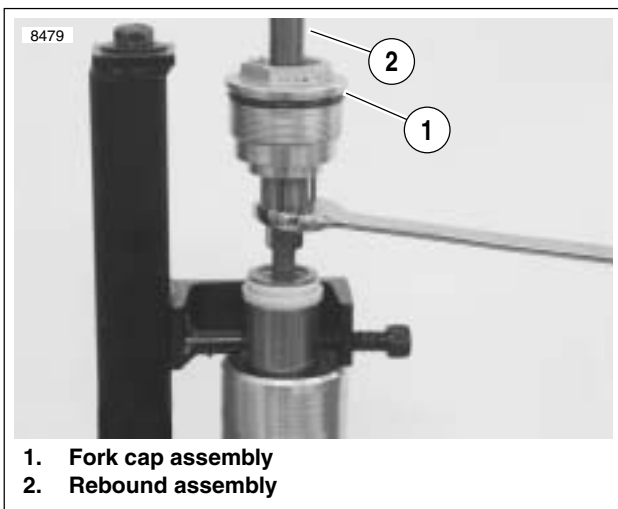

Figure 2-71. Rebound Assembly and Fork Cap Assembly
- See Figure 2-71. Tighten the damper locknut (10) to 22-30 ft-lbs (30-40 Nm).
21. See Figure 2-71. Hold damper rod assembly (3) and install fork cap (1) on damper rod assembly (3) tightening to 22-30 ft-lbs (30-40 Nm).